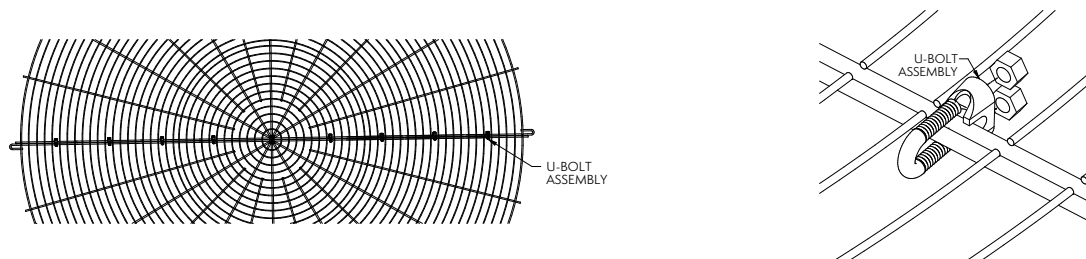

Figure 11 —U-Bolt Assembly Spacing & Arrangement
3. Join the two screen halves with "U" bolts, as shown in **Figure 11**.